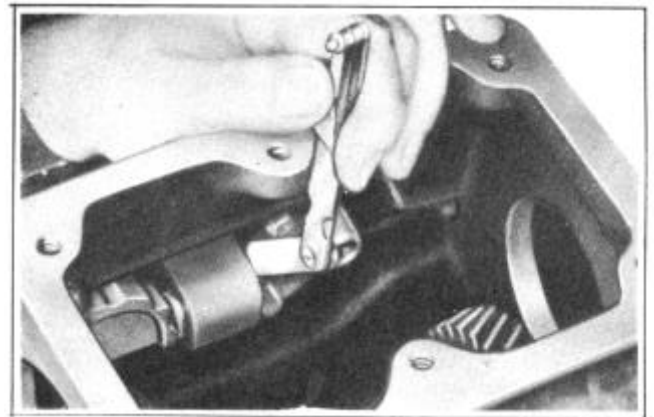

FIGURE 42
4. Install shift shaft levers, short (low and reverse) on rear shaft and long (second and high) on front shaft. Move either lever into any in-gear position and with one end of the interlock sleeve contacting a shift shaft cam, measure the clearance with a feeler gauge between the opposite end of the sleeve and the cam of the other shift shaft, Figure 42. This clearance should be from .001" to .007". If not within these limits, remove sleeve and replace with one of proper length. Interlock sleeves are available in five different lengths as shown in specifications. Install taper pin retaining second and high shift shaft in case.